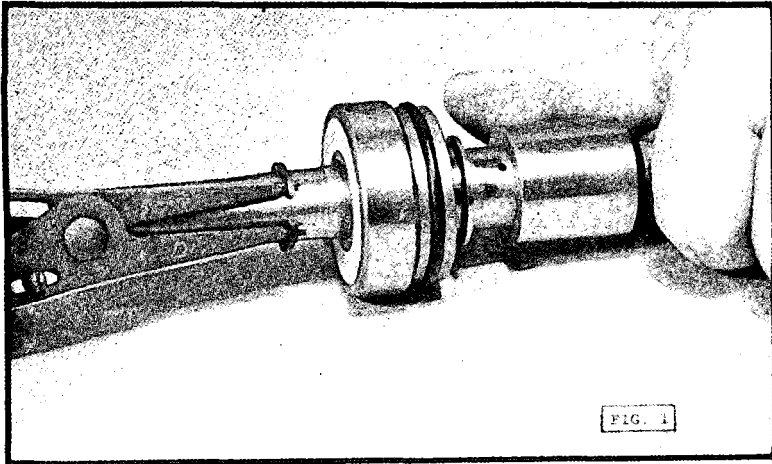

FIG. 1
1. Grip power rotor as shown in Fig. 1. Use standard external snap ring pliers and remove snap ring (021) adjacent to bearing.
3. Lubricate wear ring with clean light lubricating oil. Install seal assembly with a slightly twisting motion on the wear ring as shown in Fig. 1.